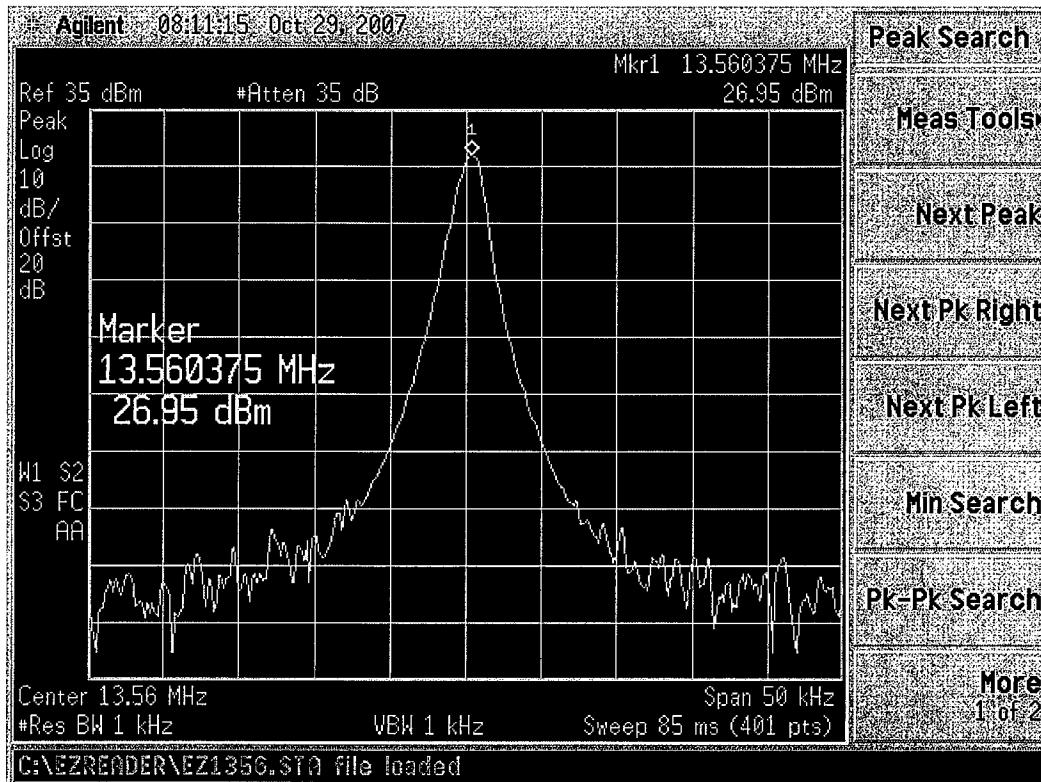

Figure 16
9.8.11 Repeat steps 9.8.5 thru 9.8.8 for the .5Watt setting, use 27 dBm (+/- .2dB) as the level you are trying to achieve, your result should look like Figure 16.